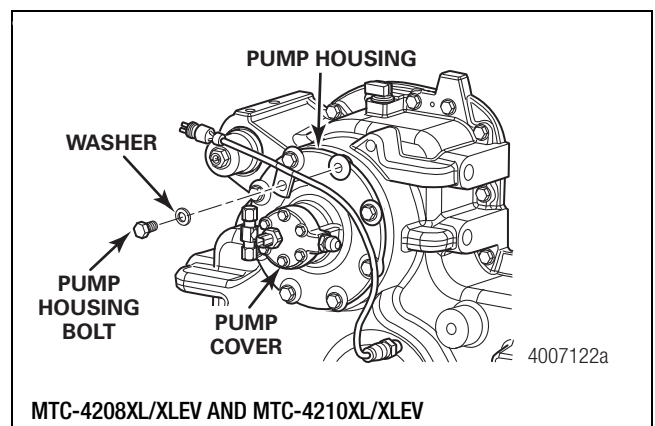

Figure 4.7
2. Remove the pump housing washers and bolts. Remove the pump housing and cover. Figure 4.7.